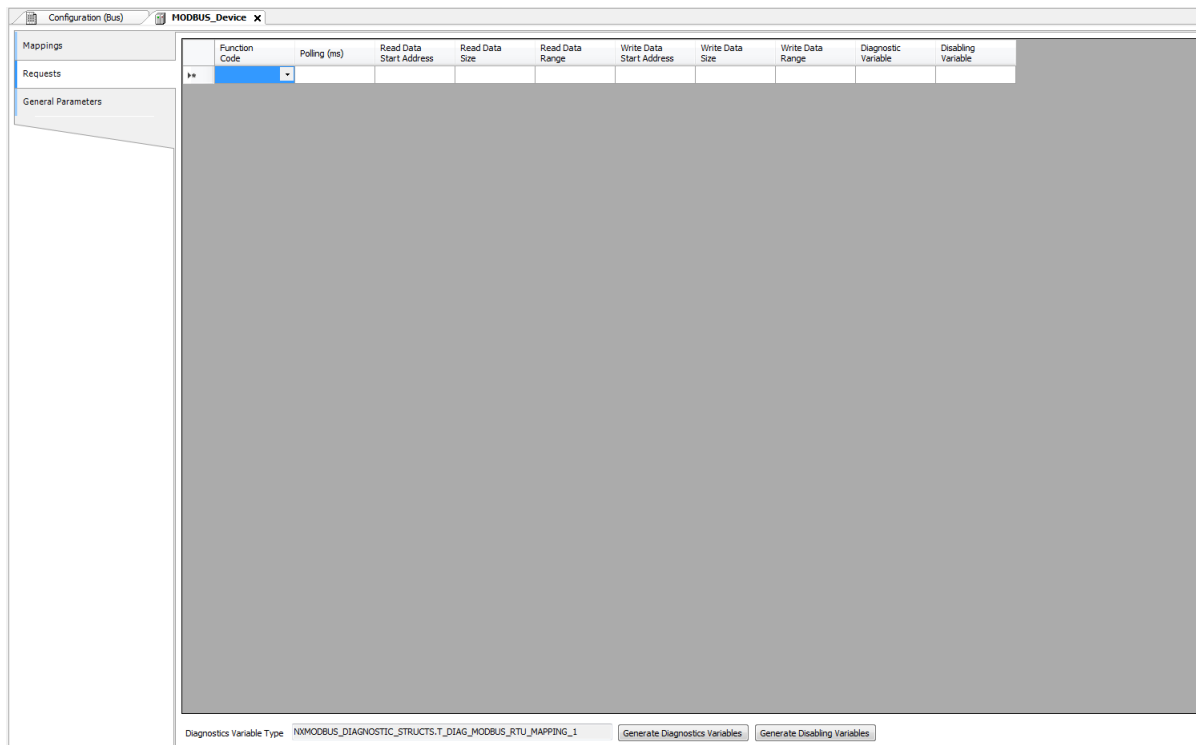

Figure 56: Data Requests Screen MODBUS Master
- Add and configure the MODBUS requests as presented in Figure 56, specifying the function, the scan time of the request, the starting address (read/write), the data size (read/write) and generate diagnostic variables and disabling the request via the buttons at the bottom of the window.